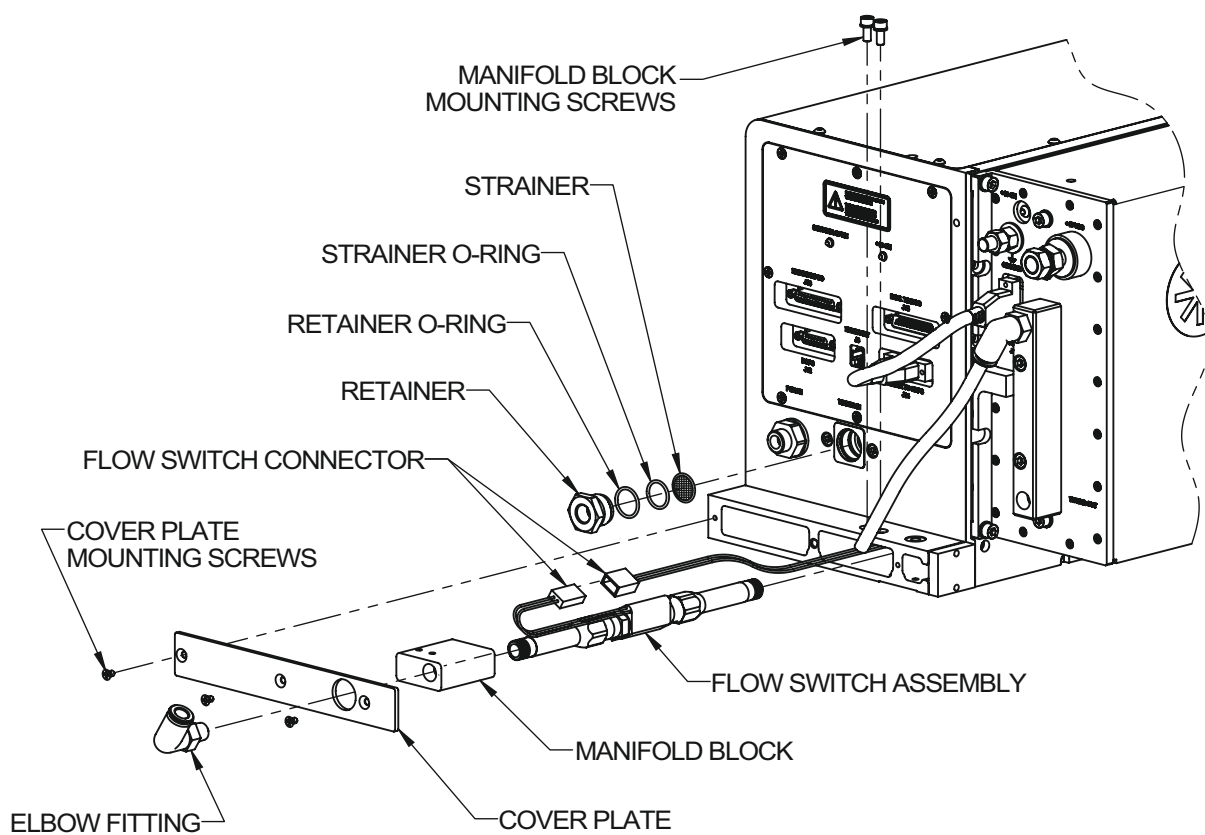

Figure 6-1. Coolant Flow Switch Replacement
3. Disconnect the +48 VDC and 48 VDC return connections from the laser head. Disconnect all control cables. Refer to Figure 3-29 on page 3-42 and Figure 6-1 on page 6-19 for the location of these connections.
5. Use a bucket for water drainage and have a supply of paper towels on hand while disconnecting the water lines as follows (refer to Figure 3-29 on page 3-42 and Figure 6-1 on page 6-19):
1. The coolant strainer (screen) is located on the laser head inlet coolant hose connector (Figure 3-29 on page 3-42 and Figure 6-1 on page 6-19). The screen should be cleaned when troubleshooting a low coolant flow condition. The screen should also be cleaned as part of the user's periodic maintenance. The frequency of cleaning will be determined by the condition of the facility coolant source. Perform system shut-down in accordance with the shut-down procedures in Section Five: Operation.
3. Remove the coolant inlet line (refer to Figure 3-29 on page 3-42 and Figure 6-1 on page 6-19).
3. Remove the coolant hose from the elbow fitting as shown in Figure 6-1.
5. Remove the cover plate by removing the cover plate mounting screws as shown in Figure 6-1.
6. Remove the manifold block by removing the manifold block mounting screws as shown in Figure 6-1.
7. Pull out the coolant flow switch as shown in Figure 6-1.
8. Disconnect the flow switch connector as shown in Figure 6-1.
3. Replace the manifold block on the coolant flow switch and mount using the manifold block screws as shown in Figure 6-1.
4. Replace the cover plate using the cover plate mounting screws as shown in Figure 6-1.
5. Replace the elbow fitting into the manifold block as shown in Figure 6-1.